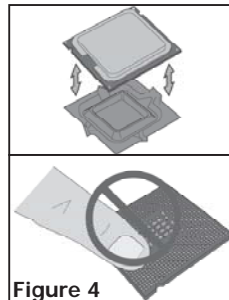

Figure 4
4. Remove the processor from the protective processor cover. Hold the processor only at the edges, being careful not to touch the bottom of the processor (see Figure 4). Do not discard the protective processor cover. Always replace the processor back to the package if the processor is removed from the socket.